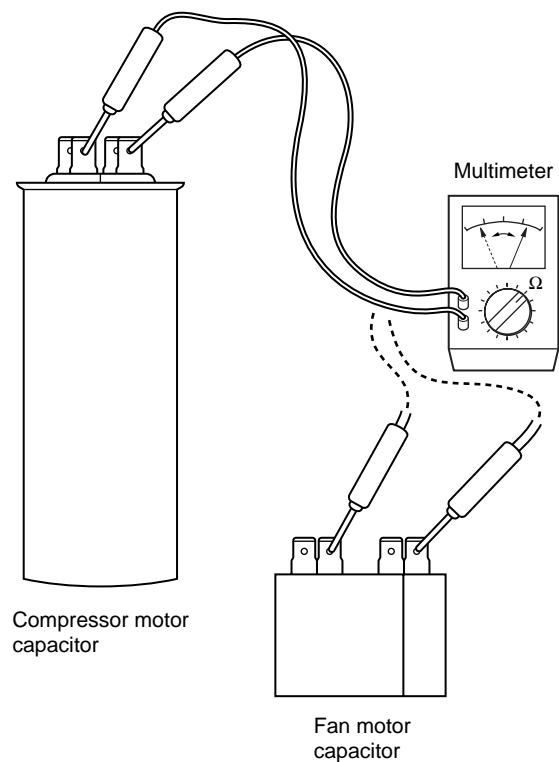

Fig. 21
- ② **Power transformer (TR) Outdoor unit** *Measure the coil resistance.
- ③ **Indoor fan motor (FMI) Indoor unit** *Measure the coil resistance.
- ④ **Outdoor fan motor (FMO) Outdoor unit** *Measure the coil resistance.
- Measure the resistance in the same manner as explained above ②.
- ⑤ **Motor capacitor Both in indoor and outdoor unit**
- Remove the lead wires from the capacitor terminals, and then place a probe on the capacitor terminals as shown in **Fig. 21**. Observe the deflection of the pointer, setting the resistance measuring range of the multimeter to the maximum value.